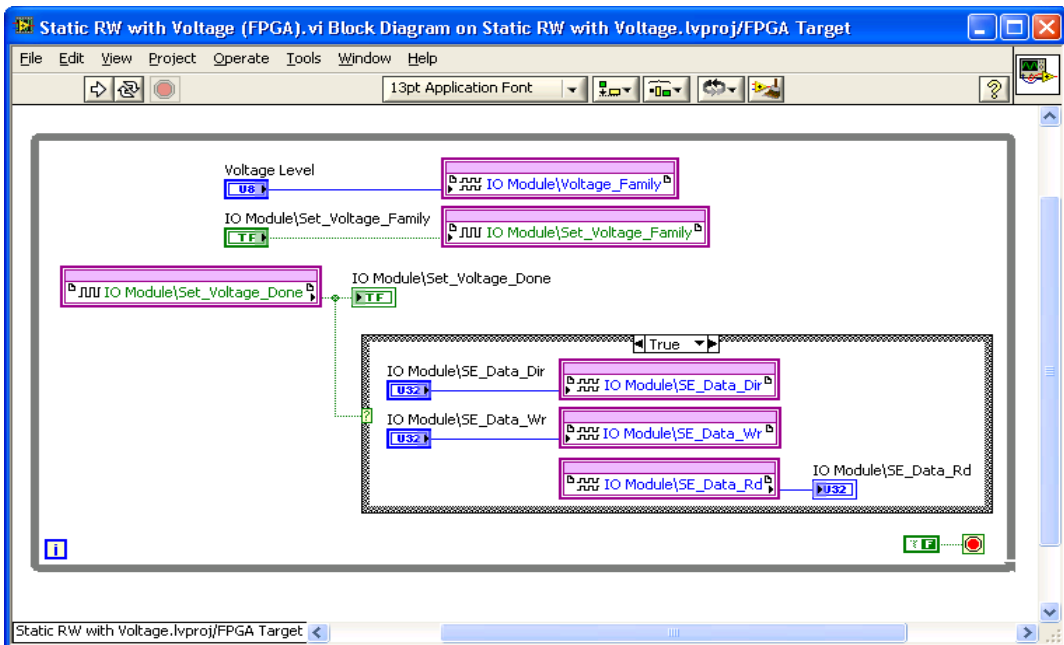

Figure 14. Static RW with Voltage (FPGA).vi Block Diagram
11. Add a While Loop around all six data nodes, as shown in Figure 14.
19. Wire the Voltage Level control to the **IO Module\Voltage_Family** node, as shown in Figure 14.
Your block diagram should now resemble the block diagram in Figure 14.